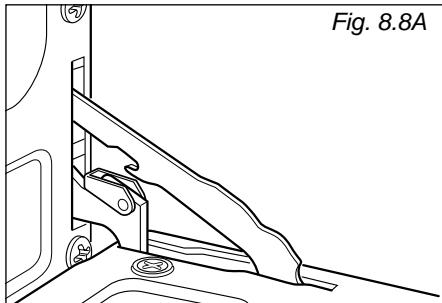

Fig. 8.8A
- Open the door to the full extent (fig. 8.8A).